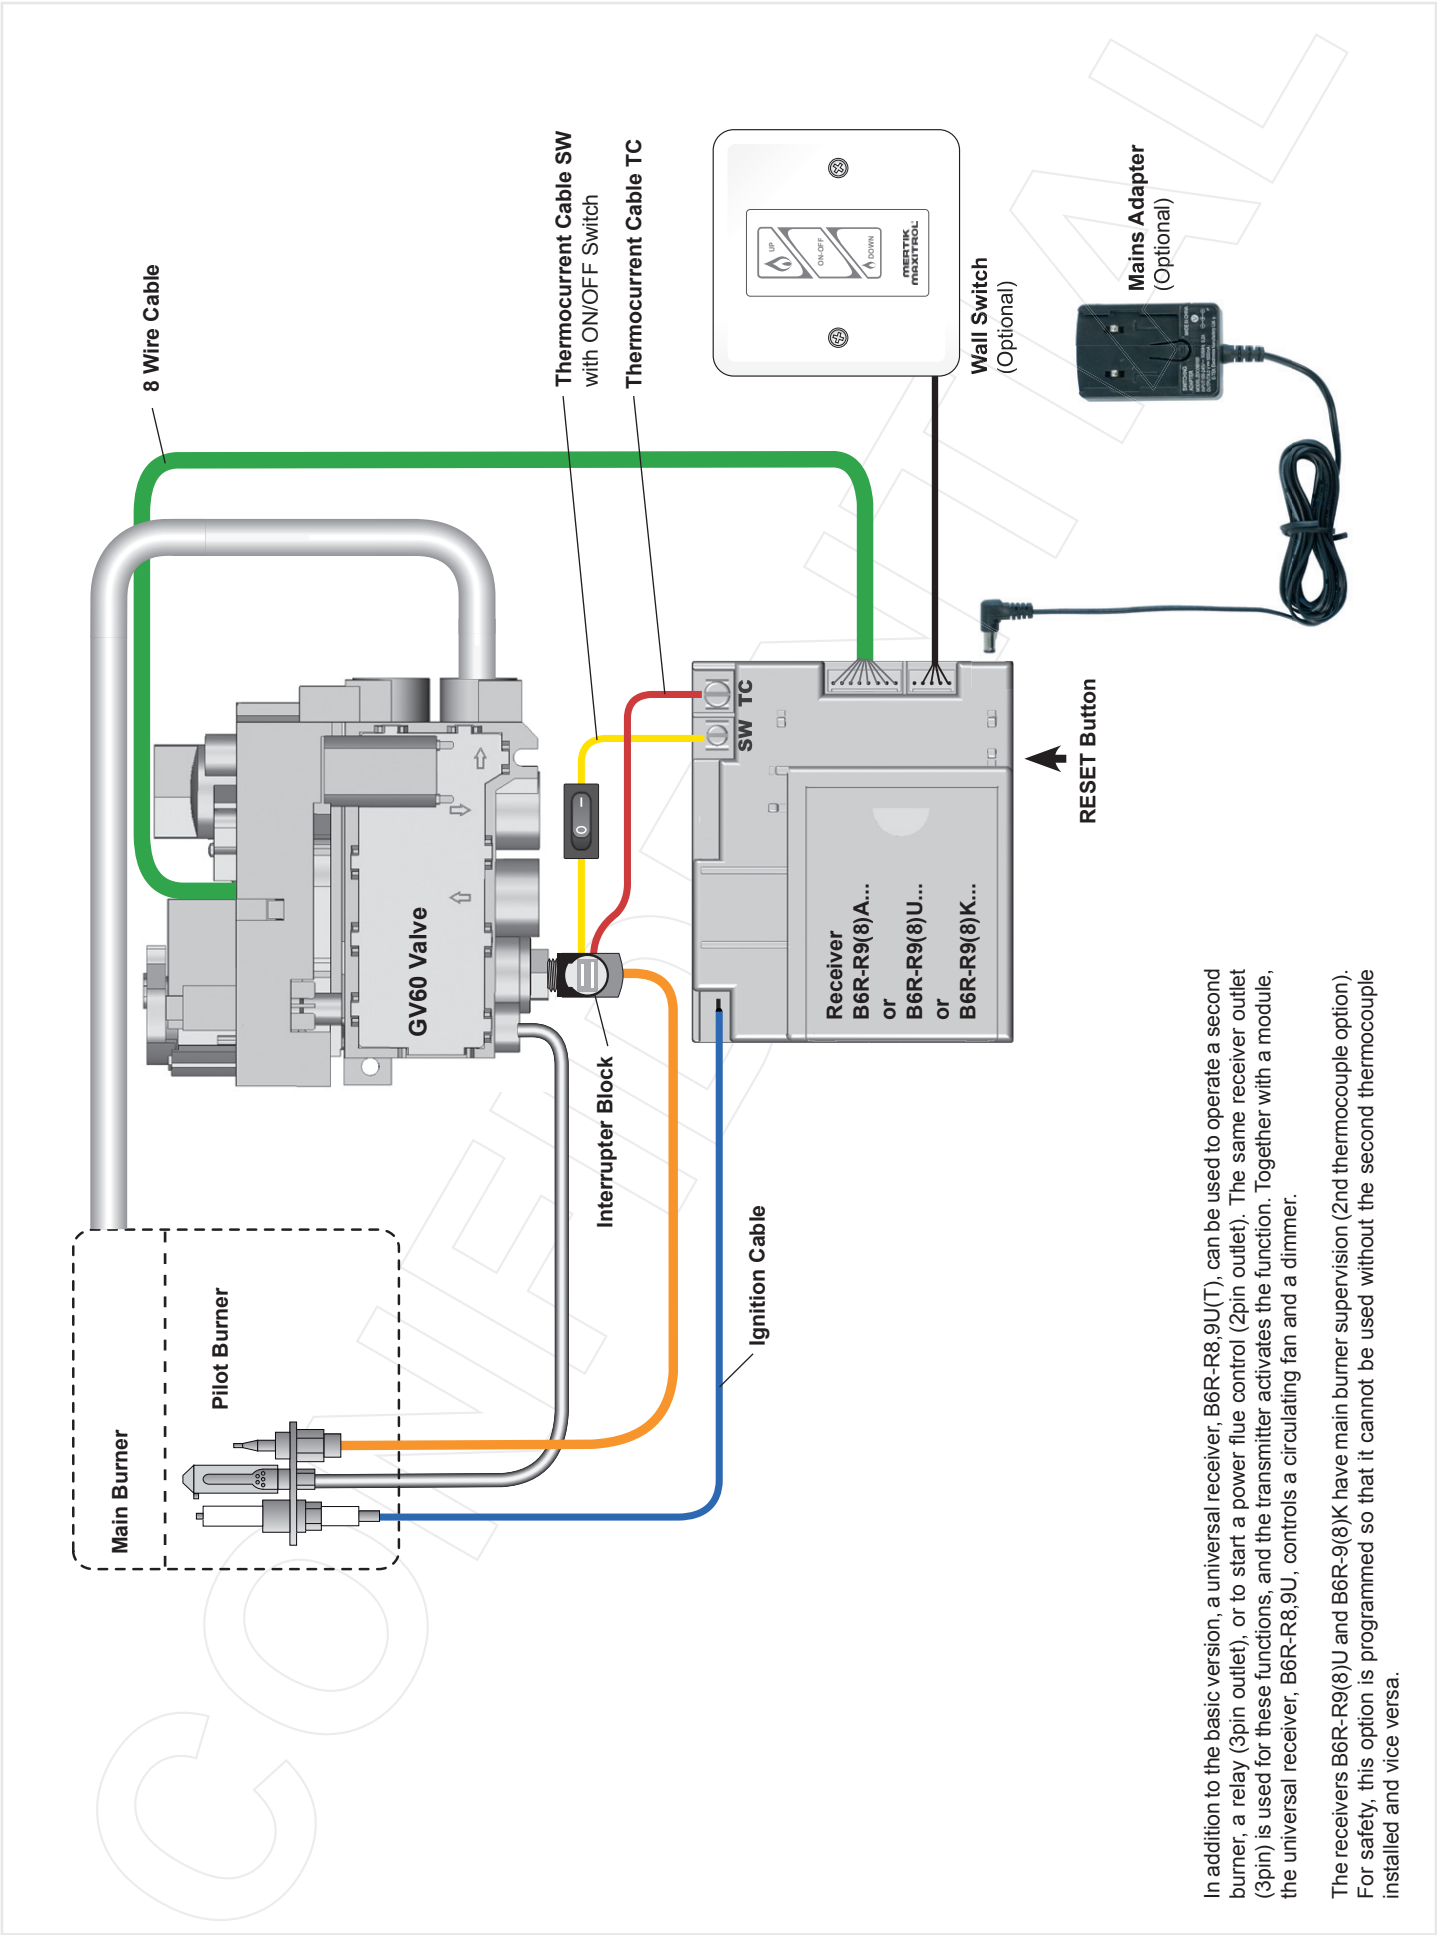

Figure 10
(See figures 10–14, pages 7–11)
Press and hold the receiver's reset button (figure 10, page 7) until you hear two (2) beeps. After the second, longer beep, release the reset button. Within the subsequent 20 seconds press the ▼ button on the handset until you hear two (2) short beeps confirming the code is set.